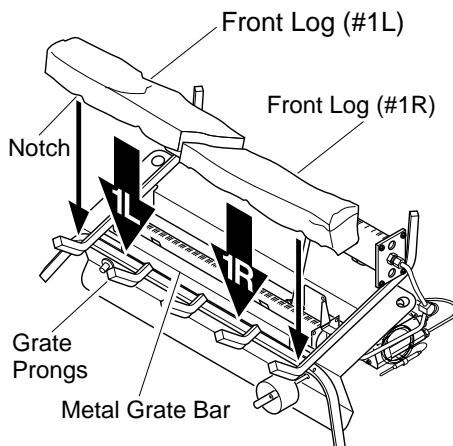

Figure 21 - Installing Front Logs (#1L and #1R)
1. Place front logs (#1L and #1R) on top of the grate. Make sure the notches in the bottom of the logs fit over the grate prongs (see Figure 21, page 12). Push back of logs flush with metal grate bar. *Note:* 18" model has only one front log.